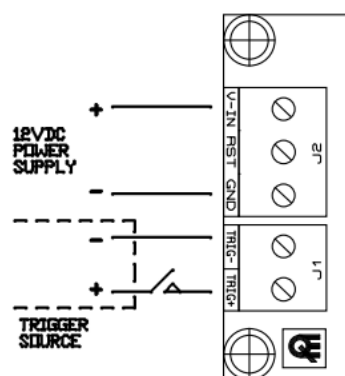

Fig 3. Electrically isolated triggering
**External Voltage** - For complete electrical isolation the trigger source must drive the timer input without any connection to the timer's power supply. In Fig 3 the trigger source voltage, via either an internal or external